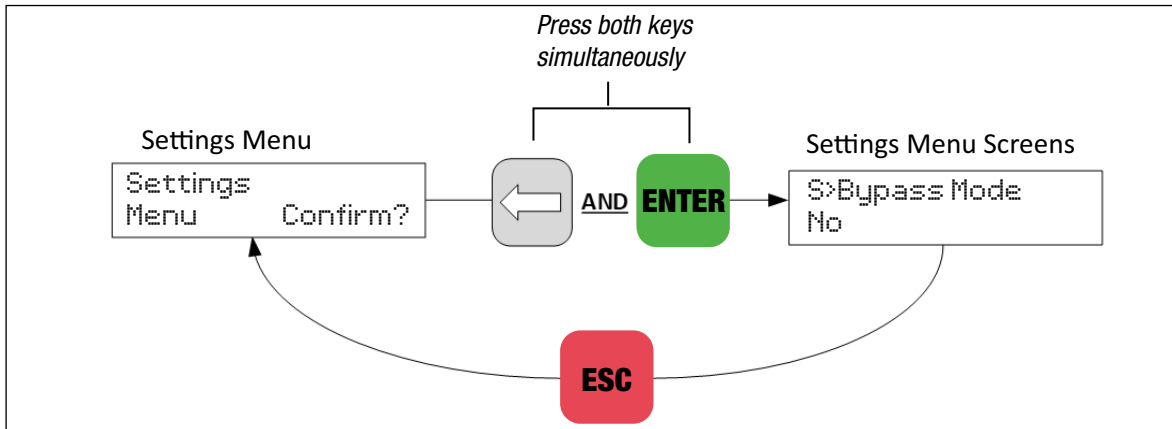

Figure 66. Settings Menu Entry and Exit
- The Settings Menu is used to edit the IQ2 configuration. The Settings Menu screens are accessed through the Settings Menu root header using the CONFIRM button combination as shown in Figure 66.